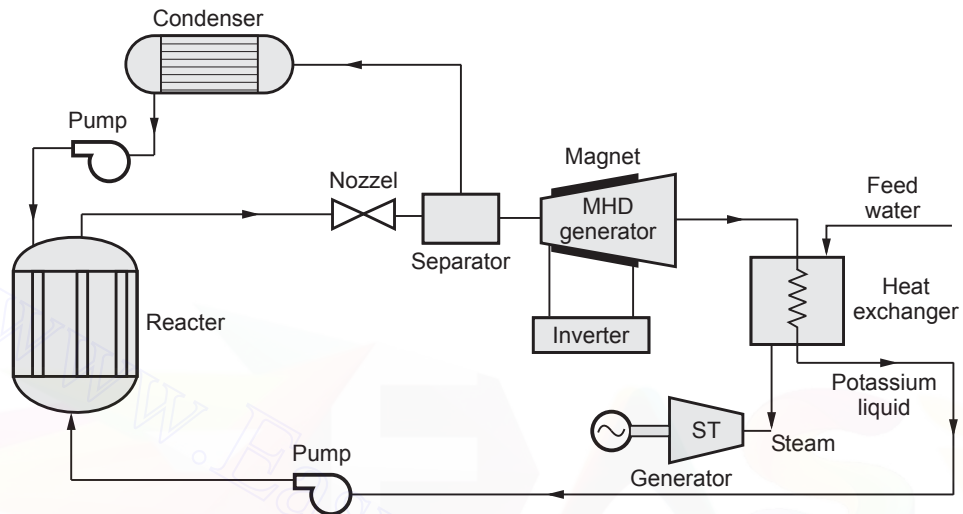

Fig. 5.10.3 Block diagram of closed cycle MHD power station
- Block diagram of a typical closed cycle MHD power plant is shown in Fig. 5.10.3.